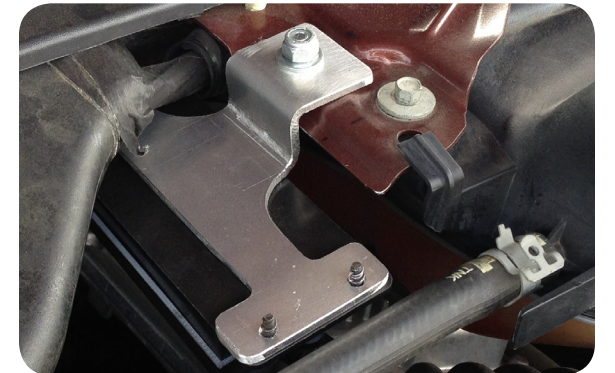

Fig. 4
2. Bolt bracket to factory mounting location near windshield. (Fig. 4)